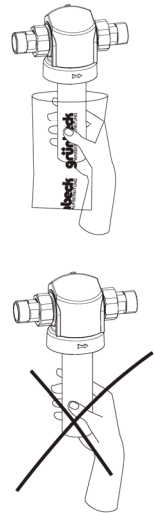

Fig. 3: Replacement of filter element
- Open the foil and push the filter element including the foil over the supporting fabric, pull off the foil without touching the filter element. (see fig. 3)